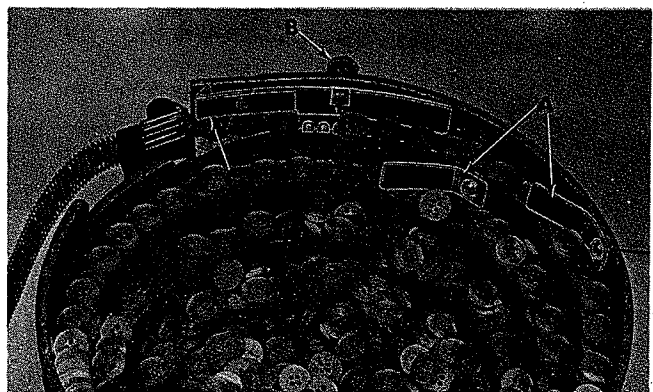

Fig. 13
Set button wiper strips to correct height so that only one button will pass under (A, Fig. 13).
Adjust width of button track by turning thumbscrew (B, Fig. 13), until buttons that are wrong side up will drop off track. Point (C) must be set up from track to allow buttons to pass.